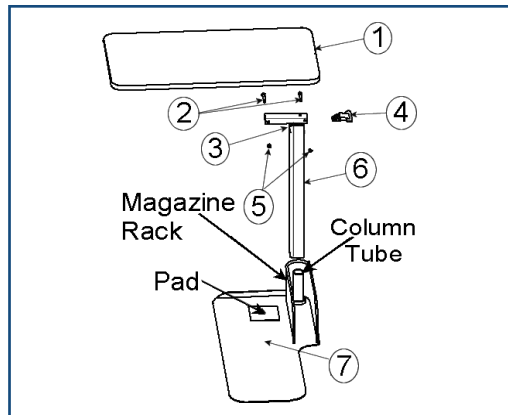

FIGURE 1
2. Stand the Column (#6) on end, making sure the Trip Rod is visible in the rectangular tube but not protruding out of the top, as shown in Fig. 1. If necessary, shake the Column (#6) until the rod drops.
3. Insert Trip Handle (#4) into the Column (#6) with the rounded side up. Be sure the Trip Handle (#4) rests on top of the rod inside the Column foot (#6). Fig. 1